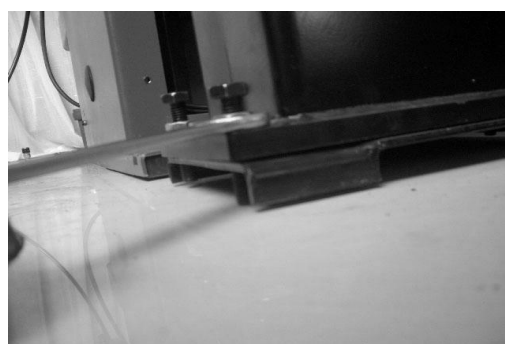

FIG 38
6.1.9 Loose the nut below the base and turn the screw clockwise until it against the ground and tight (FIG38) and install The side panel and tool box removed in the 6.1.1. At this moment, the installation of the left assistant completed.